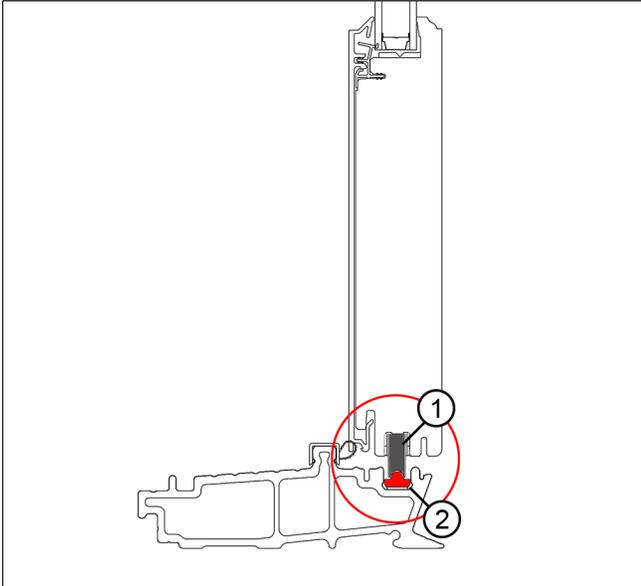

Figure 41
3. Set the panel on the track making sure the rollers are seated properly. A good visual indicator is that the groove in the end of the panel should be centered over the track. See Figure 41.